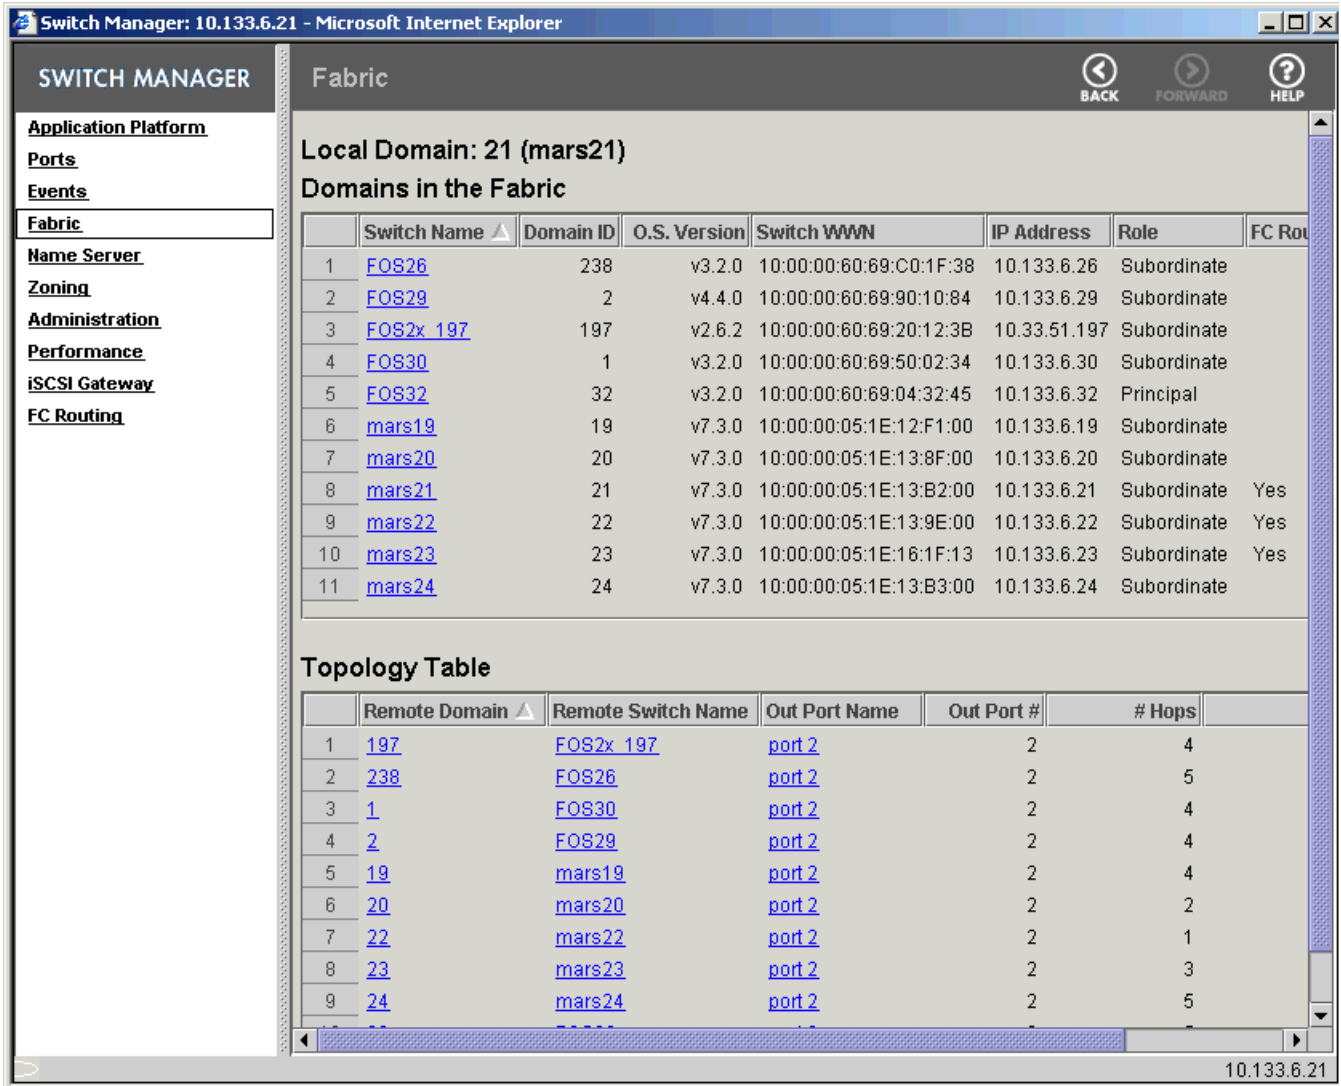

Figure 5 Fabric page
You can view fabric information through the Switch Manager. Click **Fabric** in the navigation bar to access the Fabric page, shown in Figure 5. The Fabric page displays fabric domain information. This page contains two tables.
2. Click **Fabric** in the navigation bar (see Figure 5 on page 22).